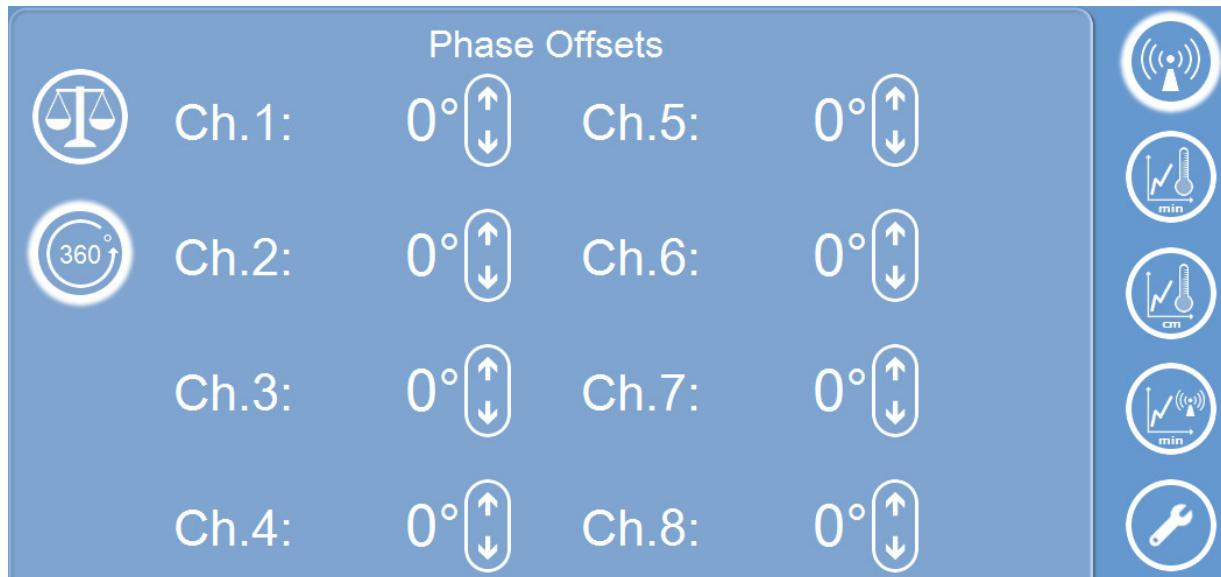

Figure 4-41: Phase Offsets Control Screen (Multiple Channel Applicator) – Synchronous Mode Only
- **Phase Controls**: discussed below (refer to Figure 4-41)
For multiple channel applicators, the **Synchronous/Asynchronous** icon button permits the control of the relative phase of all of the power channels on the **Phase Offsets** screen (Figure 4-41). When the **Synchronous / Asynchronous** icon button is clicked, it will switch the **Phase Mode**
When the **Phase Offsets** icon button is selected, the **Phase Offsets** control screen will be displayed (Figure 4-41). The **Phase Offsets** can be changed during a treatment. When the **Phase Offsets** are all the same, they are called *phase coherent*.